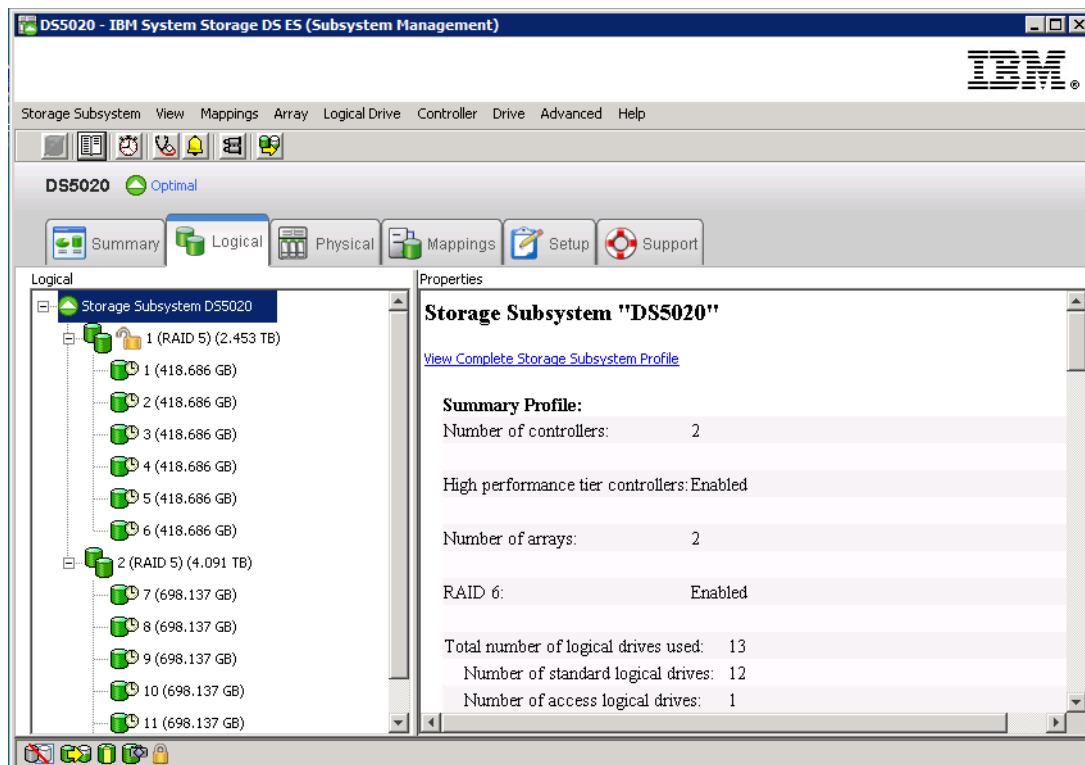

Figure 3-47 Automatic configuration results
5. After completion, the Storage Manager shows the arrays, logical drives, and hot spares created automatically based on your input, as shown in Figure 3-47.